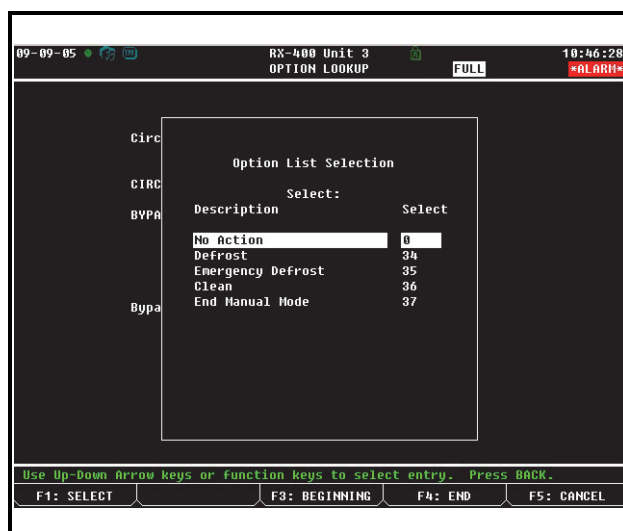

Figure 12-15 - Option List Selection Screen
5. Press **F4** LOOK UP. The Option List Selection screen (see **Figure 12-15**) will give you five choices of defrost modes.